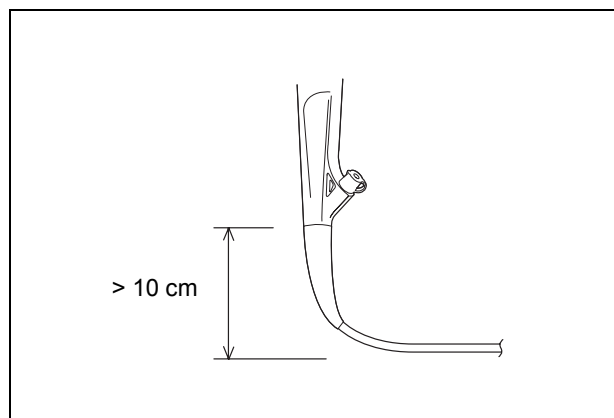

Figure 4.2
- Do not allow the insertion tube to be bent within a distance of 10 cm or less from the junction of the boot. Insertion tube damage can occur (see Figure 4.2).